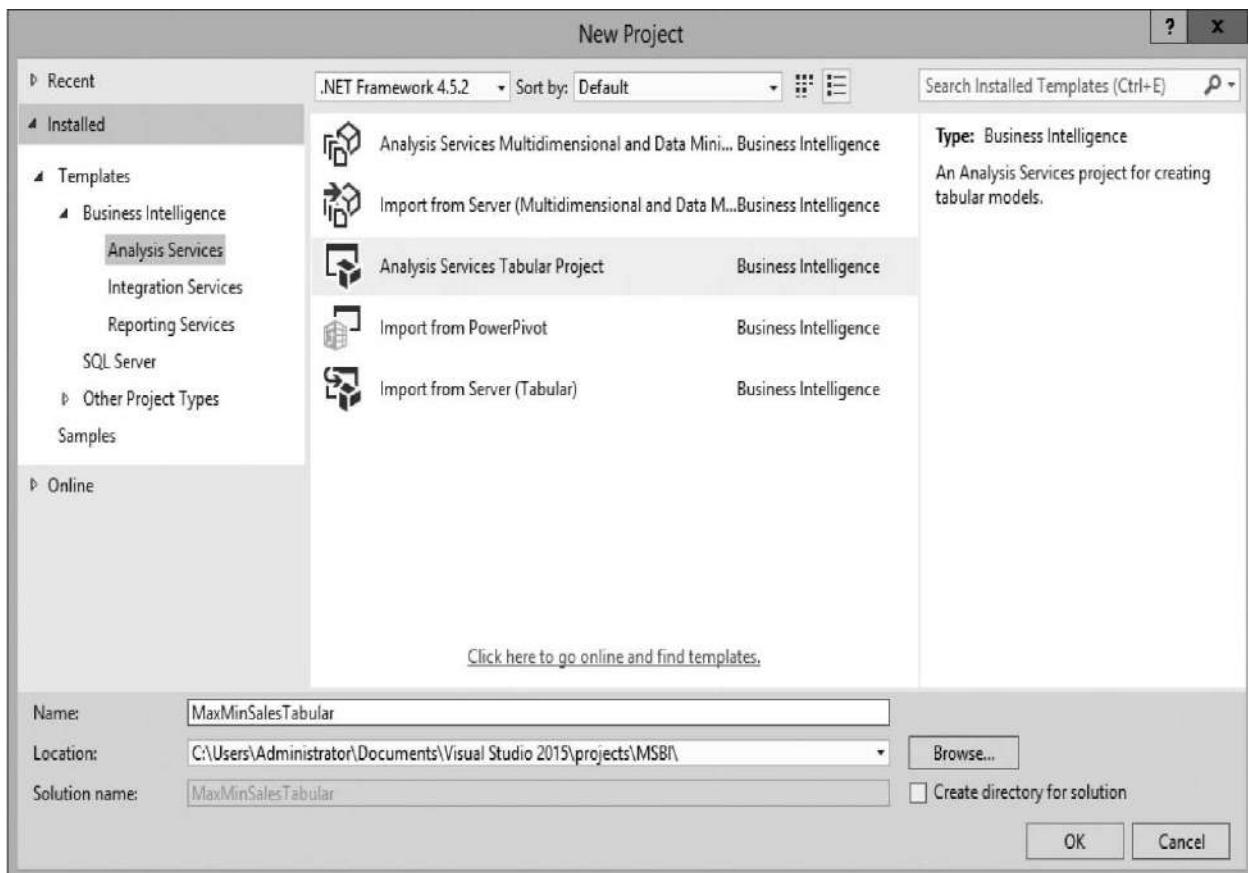

Figure 9-2 The New Project dialog box creating a Tabular model project
4. Enter **MaxMinSalesTabular** for Name and set the Location to the appropriate folder. Make sure Create directory for solution is not checked. The New Project dialog box is shown in Figure 9-2 .